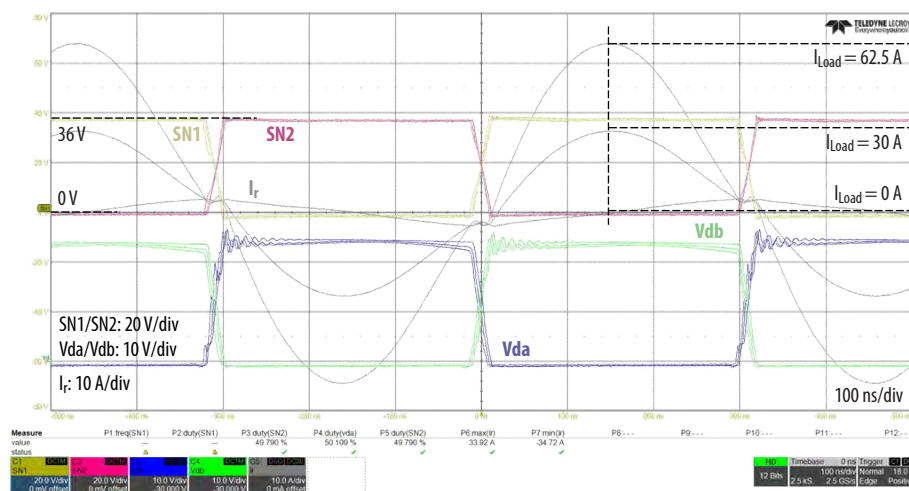

Figure 15: Measured waveforms of the EPC9159 kit operating in Through Power Mode with 36 V input, 12 V output and various load currents
- **SN1**: Primary Switch Node voltage between Q1 and Q2 referenced to GND, so single ended scope probes referenced to GND can be used. Note that the actual SN1 signal is referenced to 0VHV, which in Partial Power Mode 0VHV = VLV (Output voltage), and in Through Power Mode 0VHV = GND. The difference in these signals for both modes can be observed in Figures 15 and 16 respectively.
Figure 15 shows the measured switch-node waveforms, secondary Drain voltages, and resonant current at various output currents when operating from a 36 V supply. In Through Power Mode, the switch-node waveforms (SN1 and SN2) have a trapezoidal shape between 36 V and 0 V. All the voltage waveforms were captured using single ended probes referenced to ground (GND) and a Rogowski coil for the resonant current. Please refer to the Test Points and Measurement Setup section of this Quick Start Guide for details.